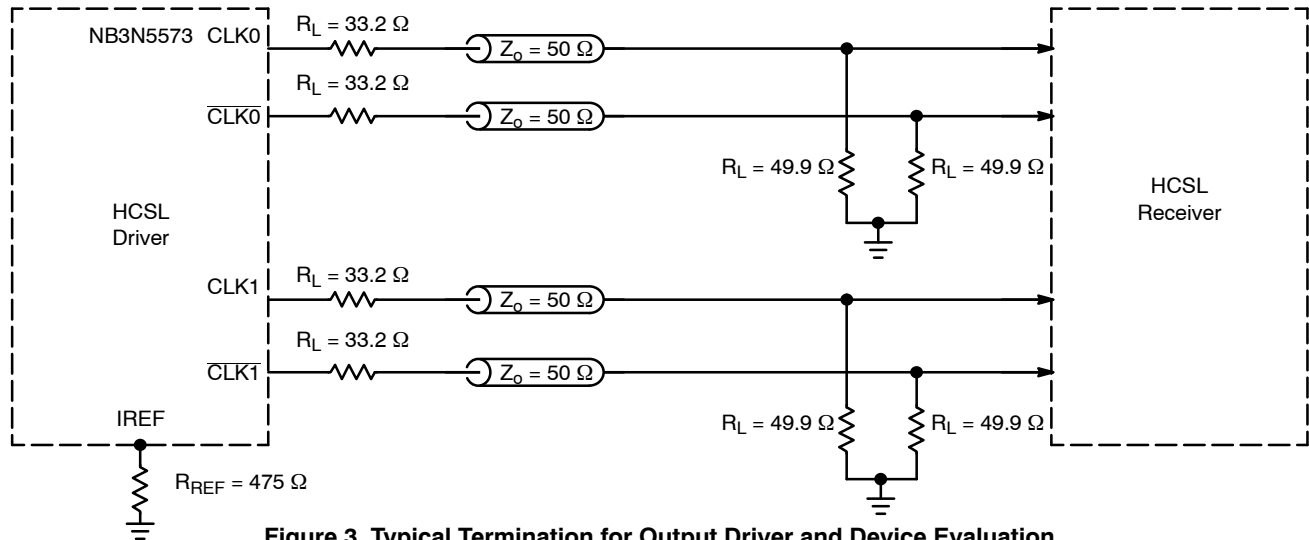

Figure 3. Typical Termination for Output Driver and Device Evaluation
- Measurement taken with outputs terminated with RS = 33.2 Ω, RL = 49.9 Ω, with test load capacitance of 2 pF and current biasing resistor set at 475 Ω. See Figure 3.
5. Measurement taken from differential output on single-ended channel terminated with  $R_S = 33.2\ \Omega$ ,  $R_L = 49.9\ \Omega$ , with test load capacitance of 2 pF and current biasing resistor set at 475  $\Omega$ . See Figure 3.